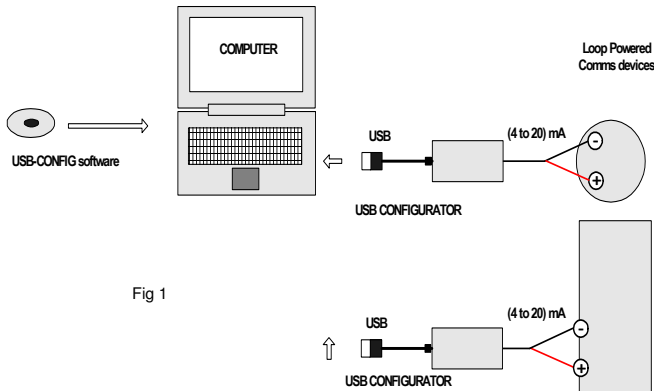

Fig 1
4.4 Connect the unit you wish to to configure to the USB module via the appropriate leads (See Fig 1), refer to the instruments user guide for the connection details.